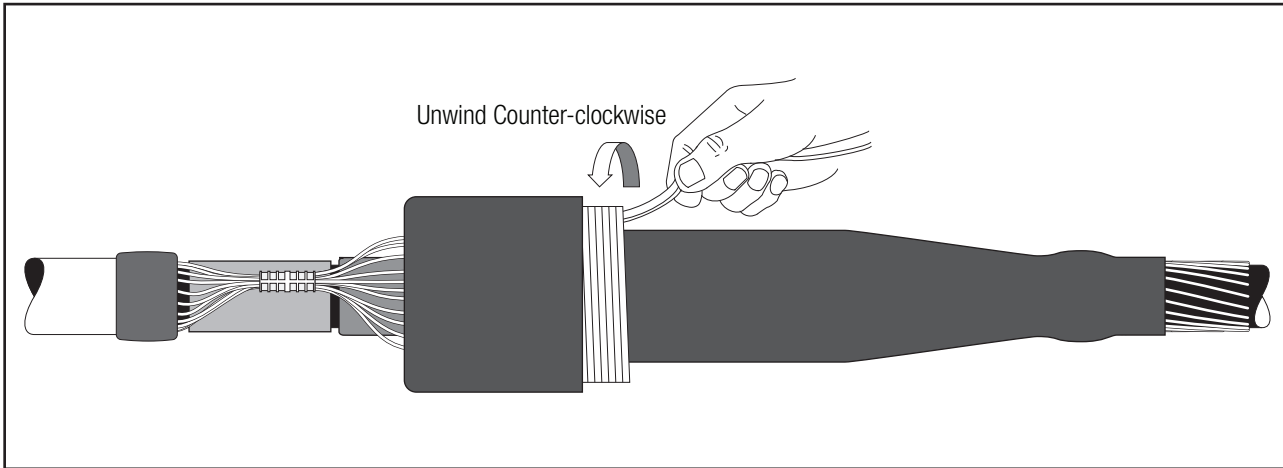

Figure 47
- 12.3 Continue to install the cold shrink tube over the rubber mastic on the other cable by slowly pulling and unwinding the outer core counterclockwise. This portion of the cold shrink tube installs differently than typical cold shrink products in that as the tube shrinks, the end rolls under. The tube may need a slight push to get over the second mastic seal (*Figure 47*).